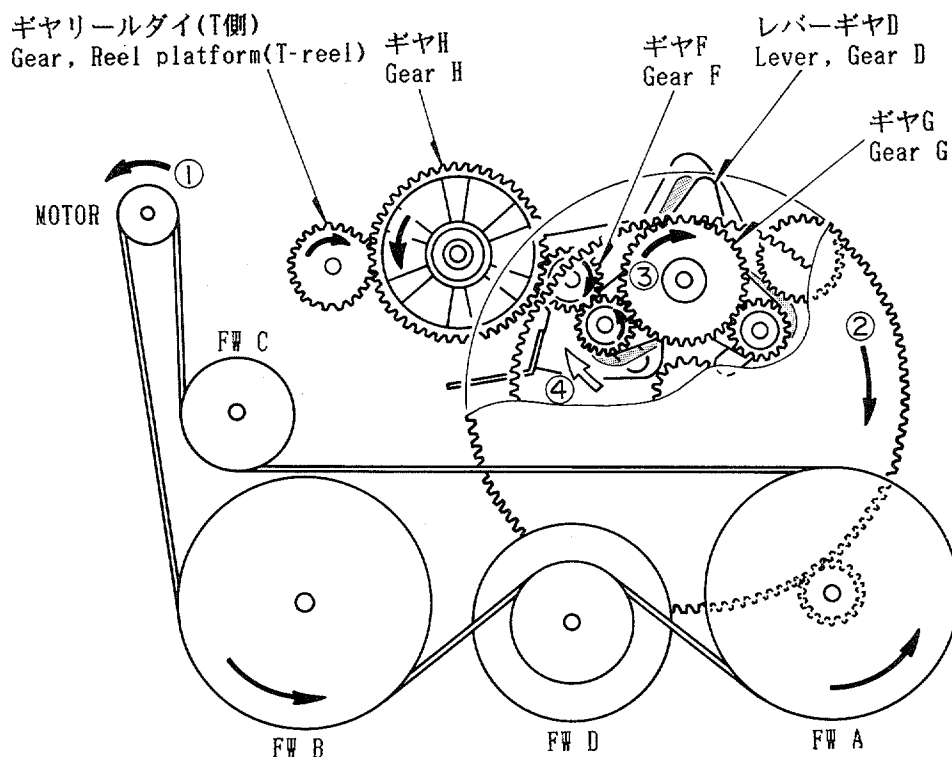

Fig. 11
- 1) FFボタンを押すとモーターが矢印①方向へ回転します。(Fig. 11参照)
- 2) ギヤA Ass'yが矢印②方向へ回転しギヤGは矢印③方向へ回転します。
- 4) ギヤDとギヤFが噛み合い、ギヤH、ギヤリールダイ(T側)に回転を伝達し、FF状態となります。(Fig. 11参照)
- 1) Pressing the FF button rotates the motor in the direction of arrow ①. (See Fig. 11)
- 2) This action rotates the gear A ass'y, too, in the direction of arrow ②, giving motion to the gear G in the direction of arrow ③.
- 3) The lever, Gear D is then moved in the direction of arrow ④ through friction of the gear D.
- 4) This movement of the lever, Gear D causes the gear D to engage the gear F, transferring motion to the gear, Reel platform (T-reel) through the gear H, thereby setting up the FF mode. (See Fig. 11)